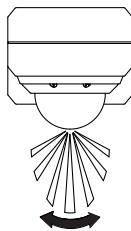

Fig. 1B
- The motion detector's monitoring area can vary slightly depending on the mounting height and mounting location, as well as on the ambient temperature. Before choosing an installing location for your motion detector, please note that the sensor reacts with greater sensitivity to movements across the monitored area (see Fig. 1B) than movements directly toward the sensor or away from the sensor (see Fig. 1C).